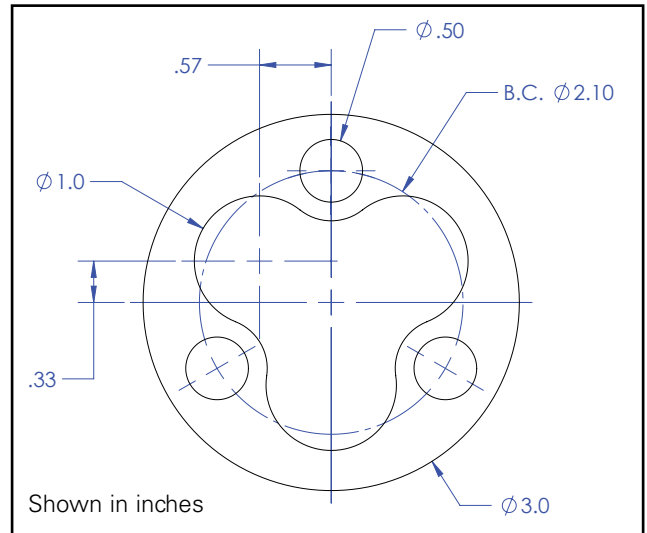

Figure 9.
6. Cat. 1900-OA (LED): See LED Module Section (Figure 9).
1. Template is not to scale and to be used as a reference only (Figure 9).